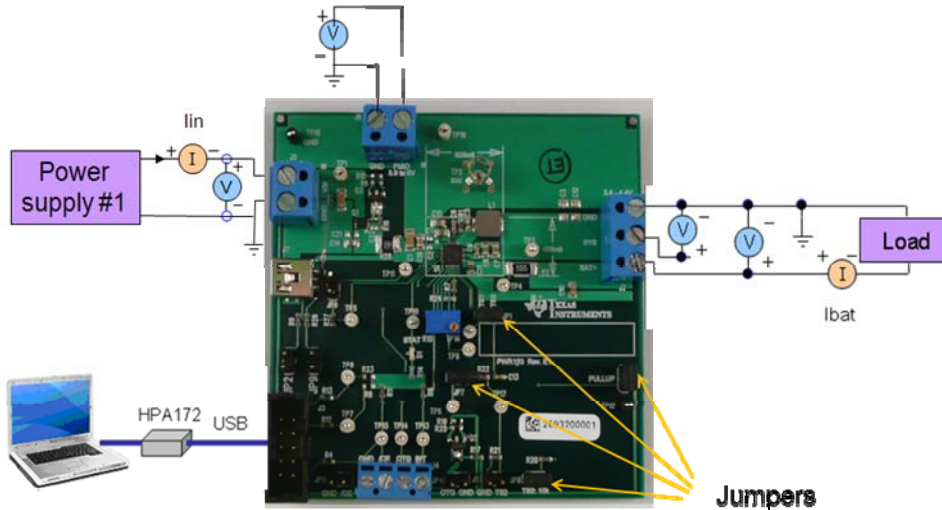

Figure 2. Original test setup for TIDA-00036 (bq2419x EVM).
- B) Connect the output of power supply #1 in series with a current meter (Multi-meter) to J1 (VBUS and GND), as shown in Figure 2.
- D) Turn on the electronic load, set to constant voltage mode and output to 2.5V. Turn off (disable) the load. Connect the load in series with a current meter (multimeter), ground side, to J2 (BAT+ and GND) as shown in Figure 2. Connect a voltage meter across J2 (BAT+ and GND).